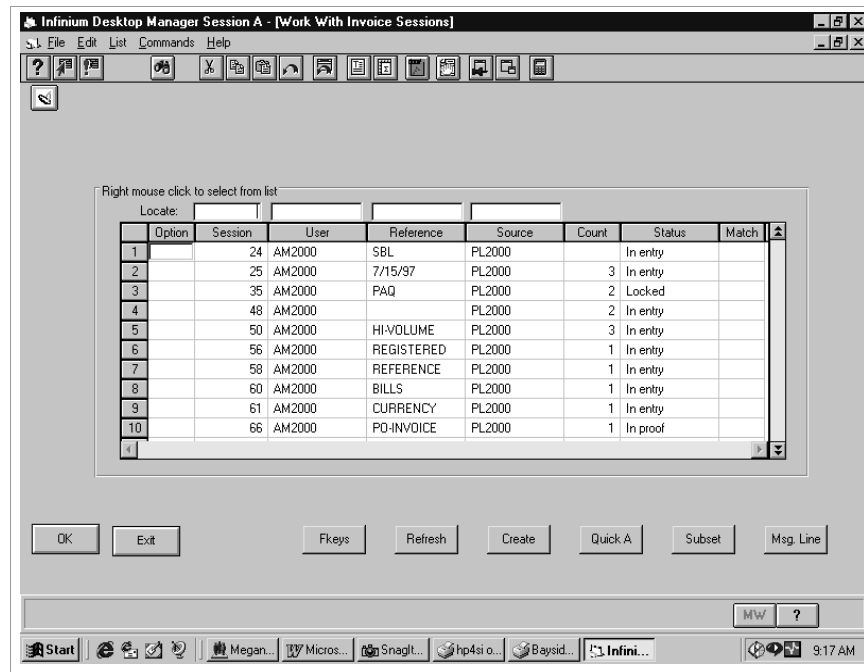

Figure 7-7: Work With Invoice Sessions screen
- 2 Select *Work with invoice entry* [WWI]. The system displays the screen shown in Figure 7-7.